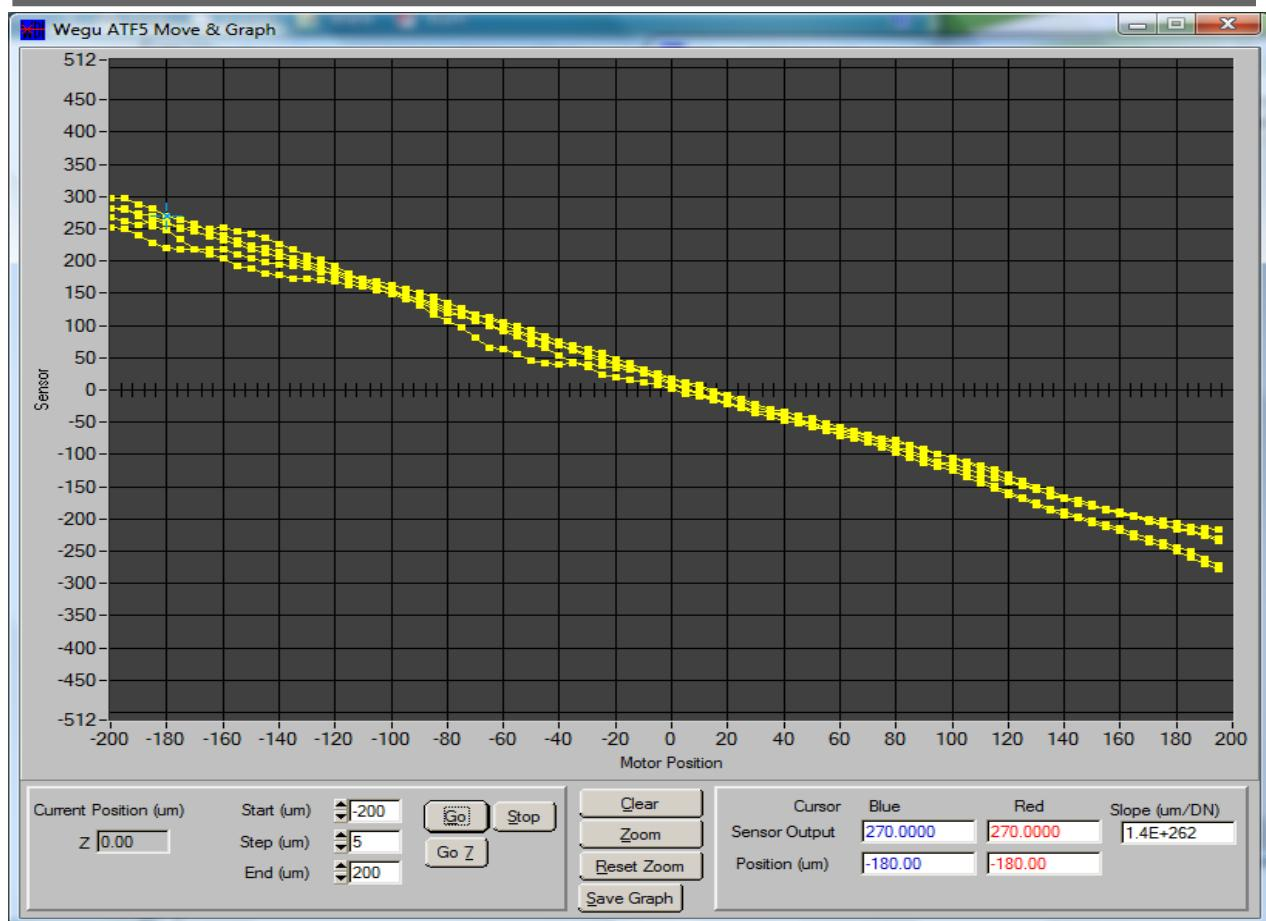

Figure 4-12 Linear Range detailed plot for properly aligned sensor w/ 5X Objective on Si Wafer.
- The result should be plotted as a sloped line similar to the one depicted on [Figure 4-12]. Measure the slope of the line by clicking and placing red cursor and blue cursor on both ends of the line (or close to them).